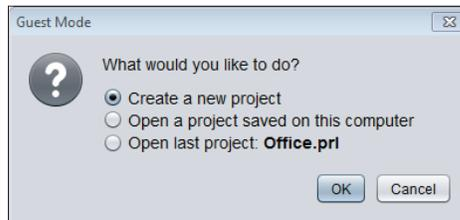

Figure 25
1. Upon first opening the Focus software, it will prompt the user to either (Figure 25):